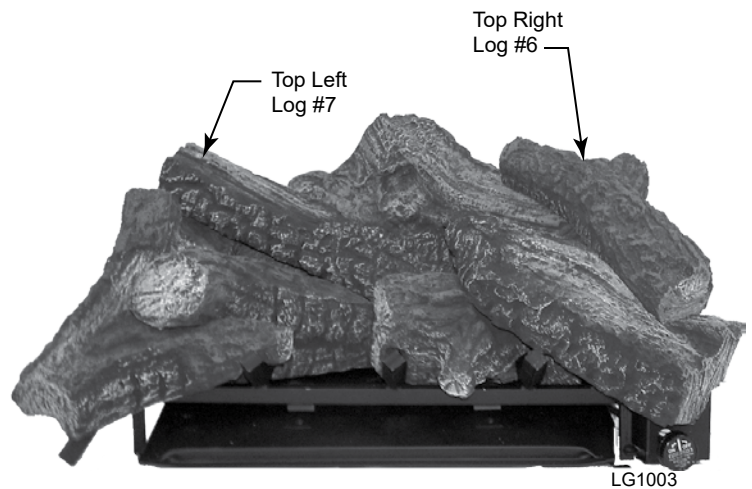

**Figure 31**
2. Place bottom right log (#2) on right side of grate. *Figure 31*
3. Place bottom left log (#3) on left side of grate. *Figure 31*